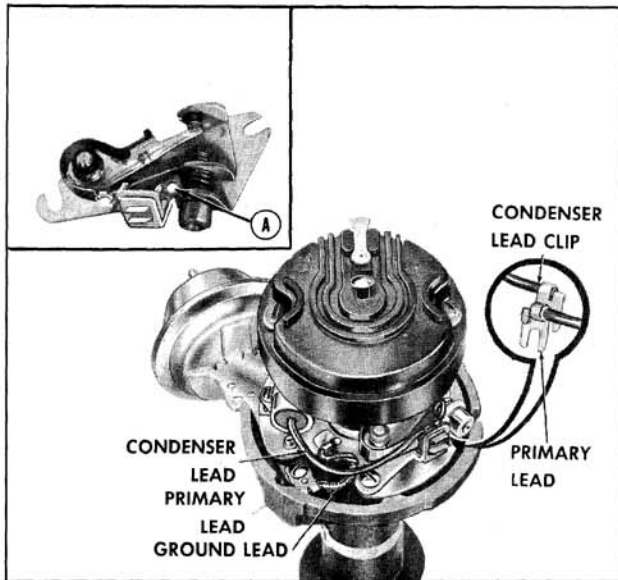

Fig. 13-67 Installing Contact Point Set
3. Upon reassembly, make sure that hole "A" in the contact set is centered over the dowel on the distributor plate and install the primary leads as shown in Fig. 13-67. Leads must be properly located to eliminate lead interference between cap, weight base, and breaker advance plate.